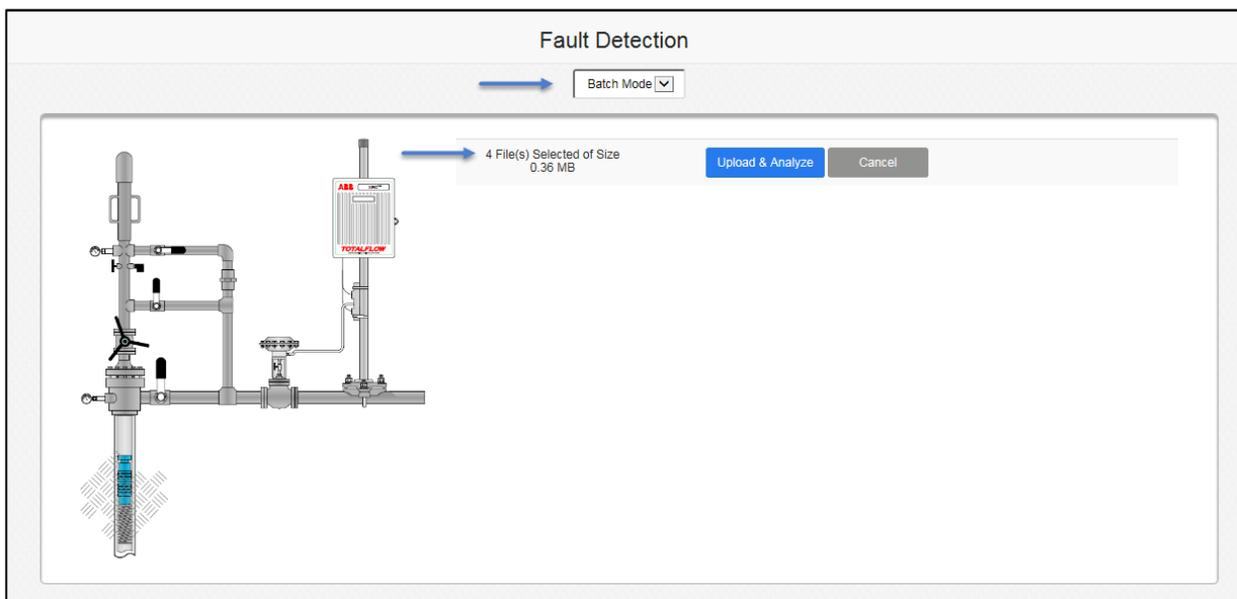

Figure 47: Starting fault detection in batch mode
- 3) Ensure that Fault Detection is in **Batch Mode** (Figure 47).